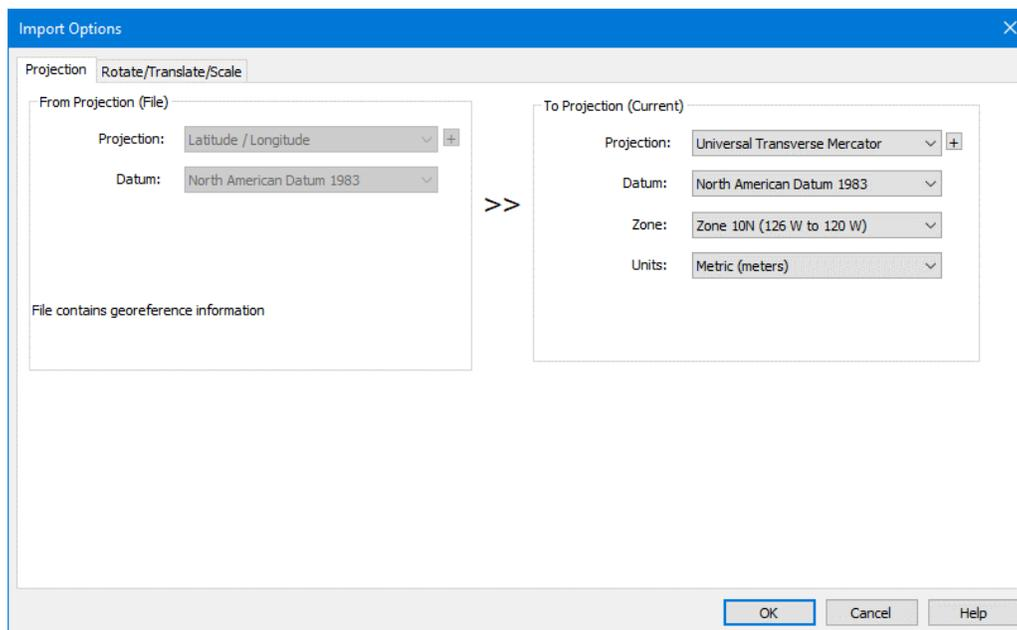

Figure 7-1: *Import Options* dialogue box.
3. In the *Projection* tab of the *Import Options* dialogue box change the *To Projection (Current)* to **UTM zone 10N** as shown in Figure 7-1 below.